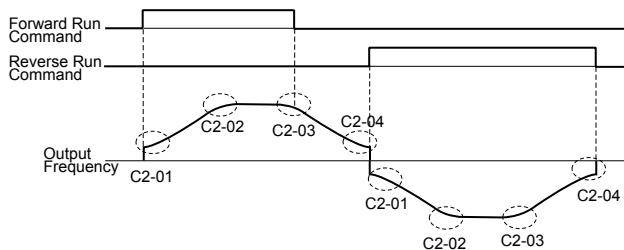

Figure 4.13 S-Curve Characteristics
*Figure 4.13* illustrates S-curve characteristics switching between forward and reverse.